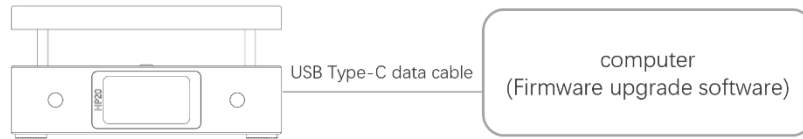

Figure 5-1 Connection Diagram
Step 1: Power off the device. Press and hold the R button, connect the device to the computer using a USB Type-C data cable, and power on the device for about 4 seconds until the screen displays "USB Connection". Then release the button. See Figure 5-1 below: